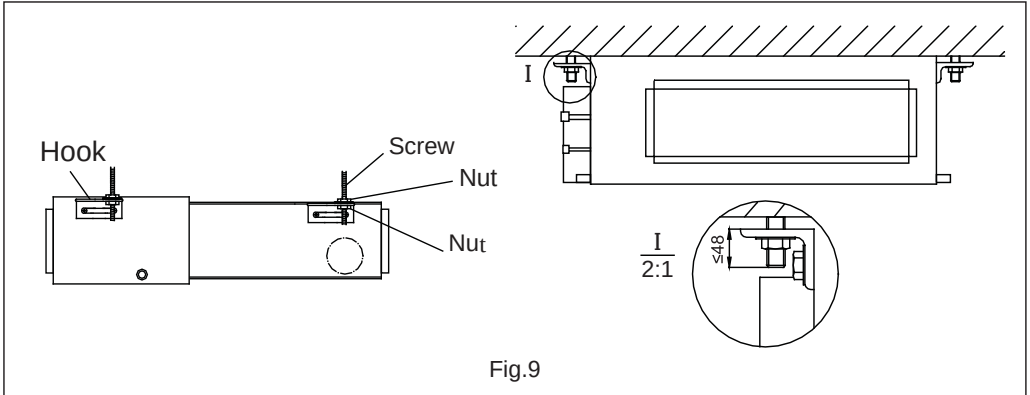

Fig.9
- (4). Pass the unit hangers over the bolts installed to the ceiling and install the unit with the special nut.(Fig.9)